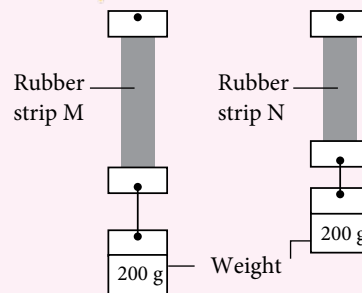

Figure 1
3. A student carried out an experiment to investigate the elasticity of natural rubber and vulcanised rubber by using the same sized rubber strips. Figure 1 shows the observation obtained from the experiment.